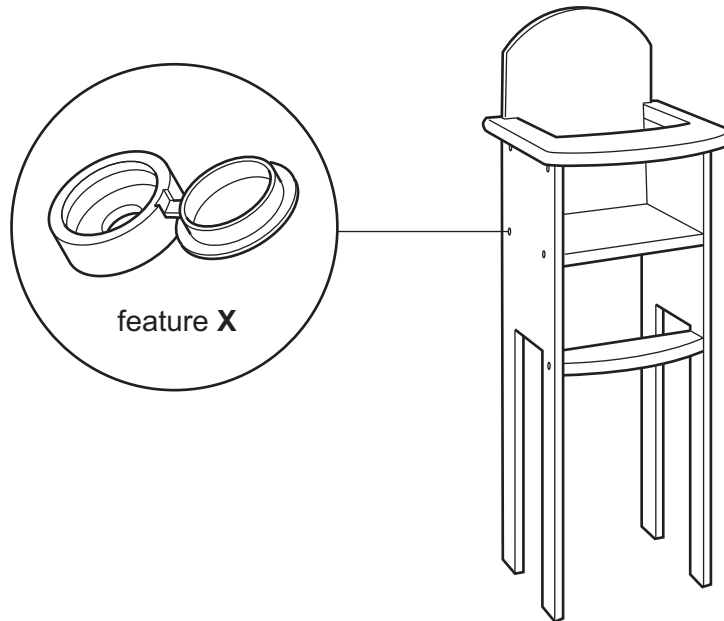

Fig. 4.1
- 4 Fig. 4.1 gives details of a child's high chair made from plywood.